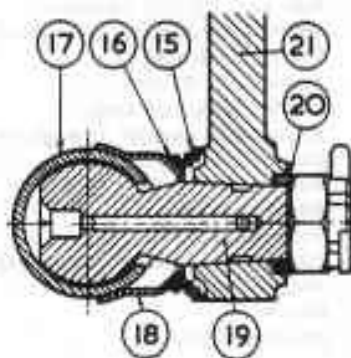

FIG. H4. SECTION THROUGH PENDULUM LEVER BALL PIN.
- (v) Remove front R.H. undershield, and, jack up and remove the side steering tube (17, Fig. H4) from the pendulum lever (21) (see page H12).